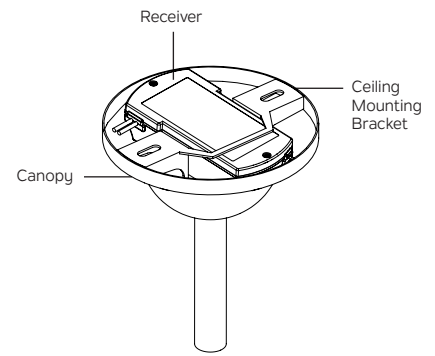

Fig. 3
Step 5. Once all connections have been made, reinstall the canopy to the ceiling mounting bracket. (Fig. 3)